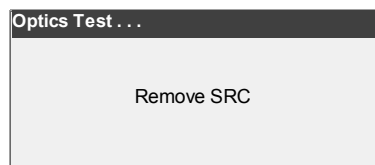

Fig. 7-19 Remove SRC
- At the completion of the test, a printout of the results will be printed and the **<Remove SRC>** message will be displayed (Fig. 7-19).